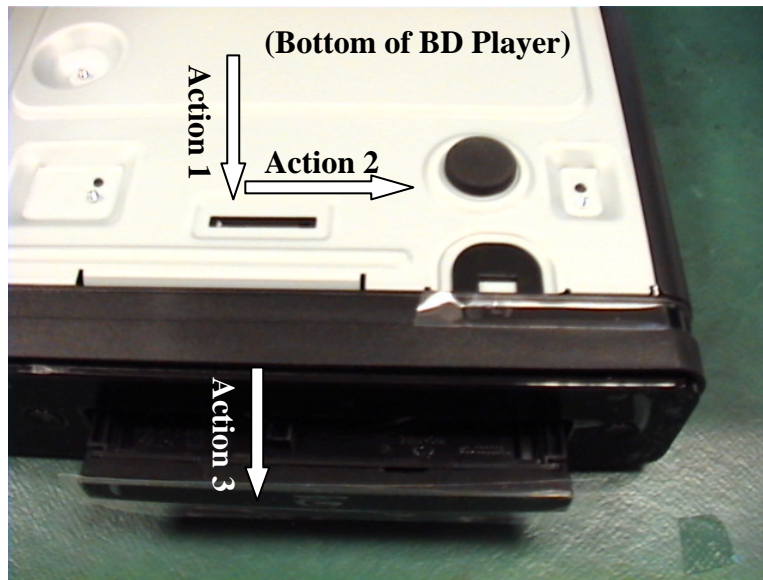

Figure 4-1-1: Unlock Tray of Loader
- 2) Insert a stick into the slot which has been created at the bottom and moving the stick to reverse direction to unlock loader's tray. See figure 4-1-1
- 1) Firstly remove DVD door. (see Figure 4-1-1 &4-1-2)
- 1) Remove Door. (See Figure 4-1-1)